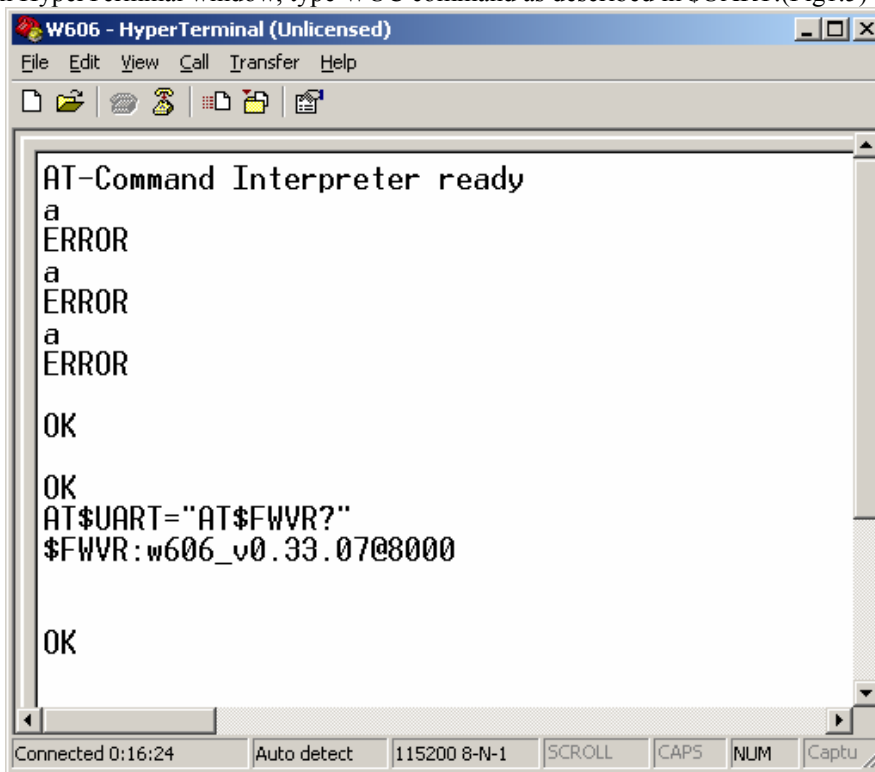

Fig1.5
1.5.6 In HyperTerminal window, type WUC command as described in \$UART.(Fig1.5)